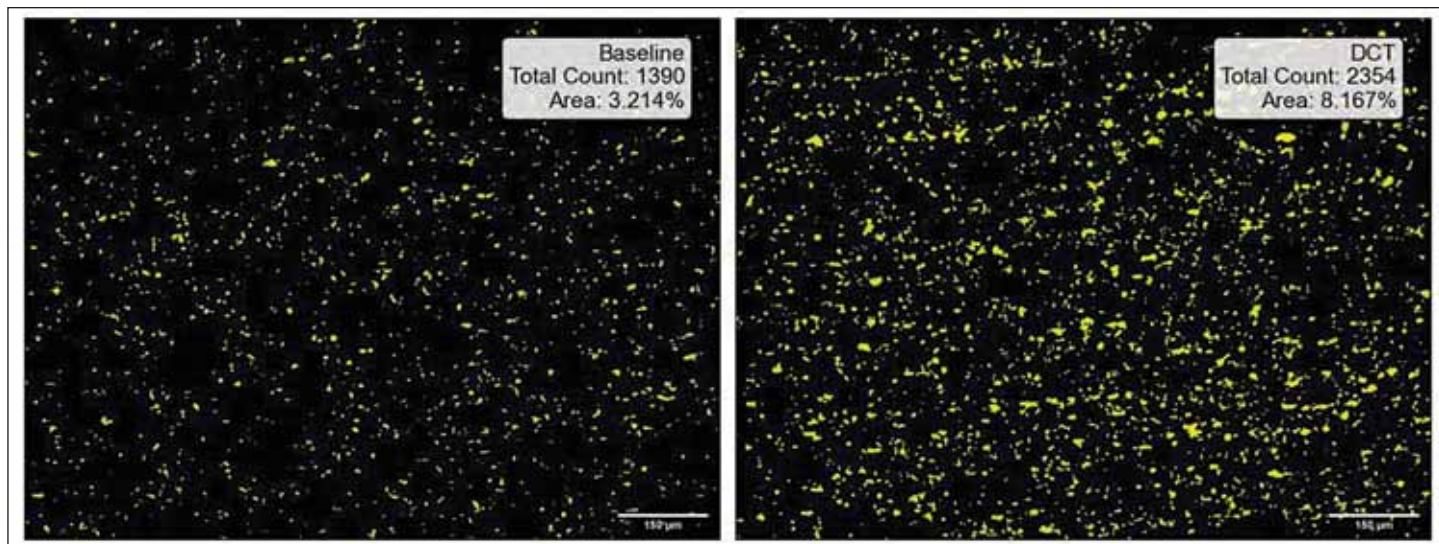
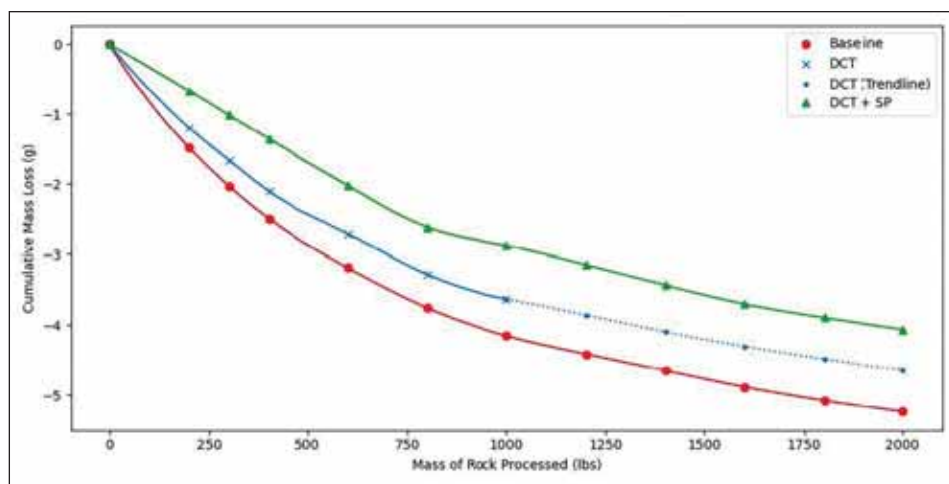

Figure 2: Carbide count in high-carbon steel. Credit: Jack Cahn
Figure 3: ASTM G81-97(a) wear test of Mn steel after crushing 2,000 lbs. Credit: Jack Cahn
**Precipitation of fine carbides.** DCT promotes the formation of fine eta-carbides in steels (Figure 2), which strengthen the material via precipitation hardening by pinning dislocations at grain boundaries. Unlike heat treating that requires precise thermal control, these carbides remain stable at ambient temperatures, making DCT especially effective at reducing two- and three-body wear (Figure 3).